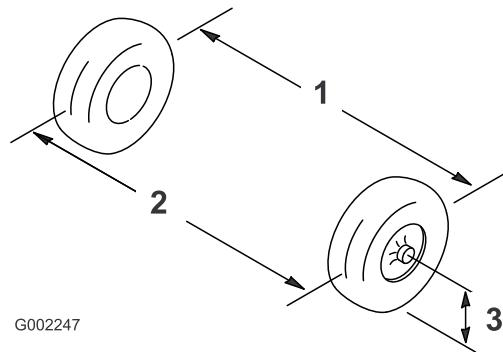

Figure 91
2. Measure the distance between of the front tires at the axle height at the front and rear of the front tires (Figure 91).